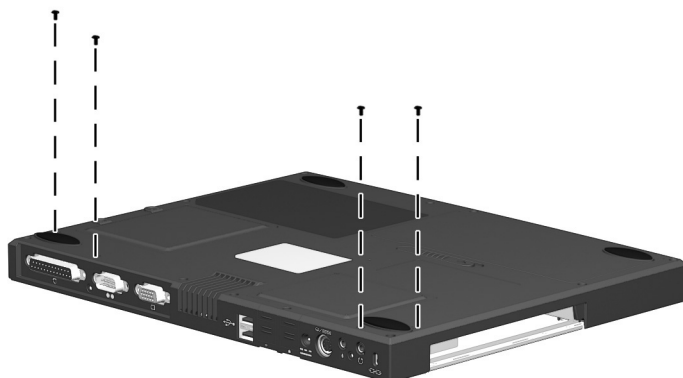

Figure 5-24: Removing the Exterior System Board Screws
3. Remove the four M2.5 × 7 screws from the bottom of the base enclosure securing the system board to the base enclosure (Figure 5-24).